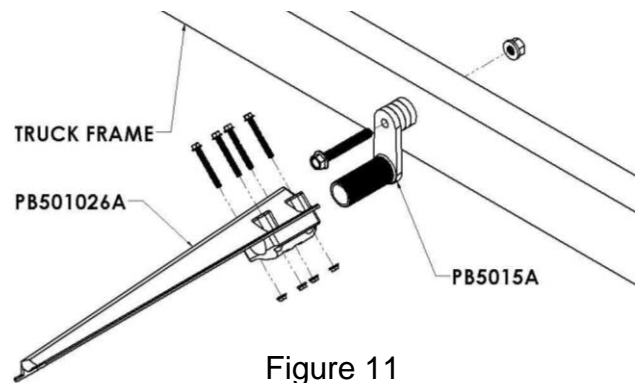

Figure 11
A. Use four 5/16" x 3" bolts to attach the bracket (part number PB501026) and the backing block (part number PBLOCK) to the steel swivel (part number PB5015). See Figure 11. **Make sure the steel swivel is fully inserted into the bracket.**